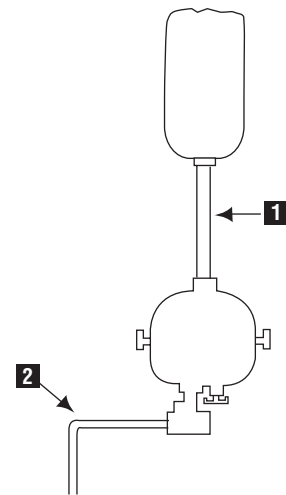
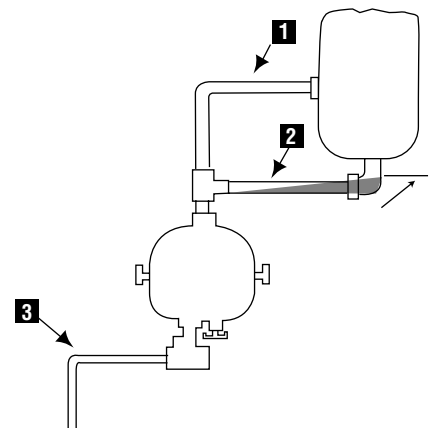

FIGURE 4
FIGURE 5
- b. Top connection drains: It is normally not necessary to vent top connection drains. See Figure 4. However, if an upward sloping drain line is unavoidable, a vent line is necessary. See Figure 5.